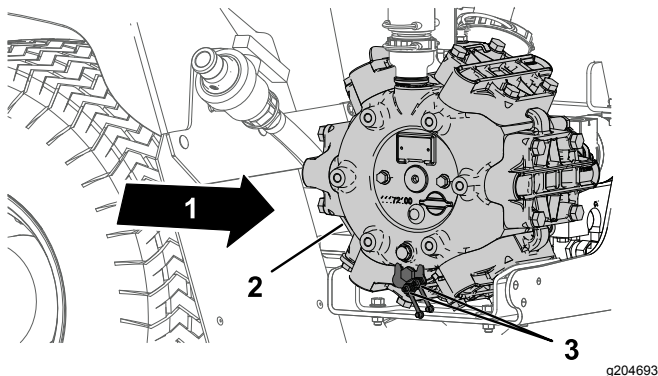

Figure 61
1. Wipe the 2 remote grease fitting clean (Figure 61).
2. Pump grease into the remote grease fitting (Figure 61).